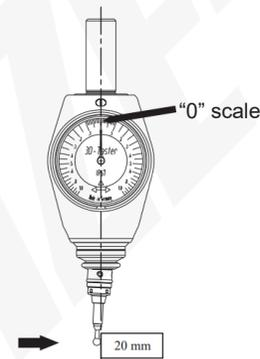

Fig. 6
---Approach gage block at first side until the pointer points "0" (Fig. 6).